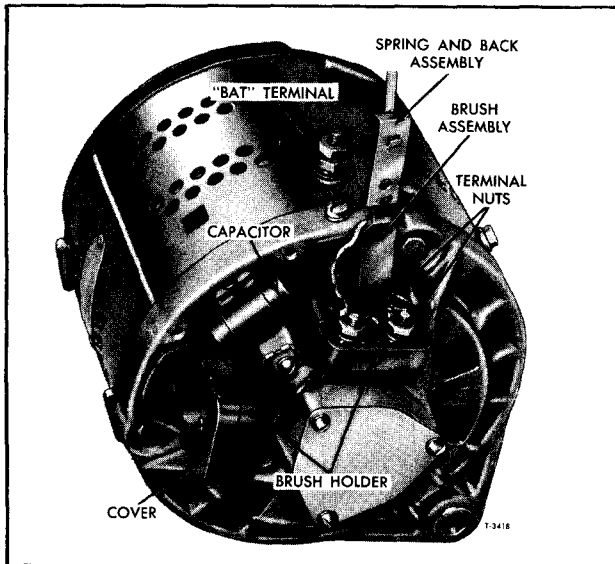

Figure 18—Generator Brush Replacement (Model 1117756) (Typical)
GENERATOR BRUSH REPLACEMENT (MODEL 1117756) (Fig. 18)
4. Position both brush assemblies in cavities in brush holder as shown in figure 18.